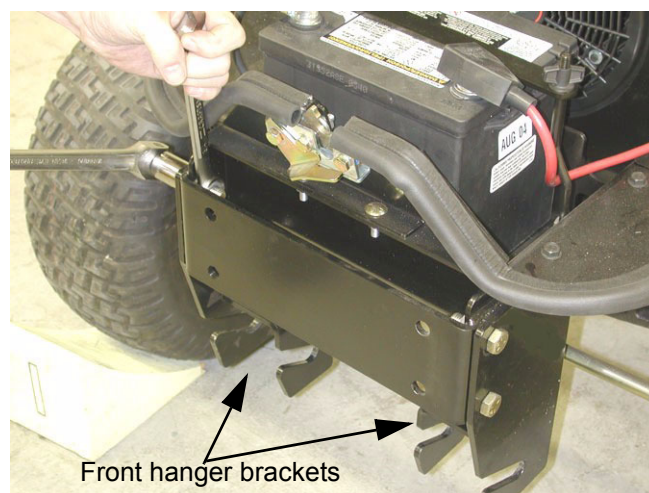

Figure 1.10
- 1.10. Attach the front hanger brackets (left and right) to the front corners of the frame. They should be oriented so that the box sections are on the inside of the brackets, and the slots on the front. Tighten the bolts to 70-80 ft.-lbs. using a pair of 3/4" wrenches. See Figure 1.10.